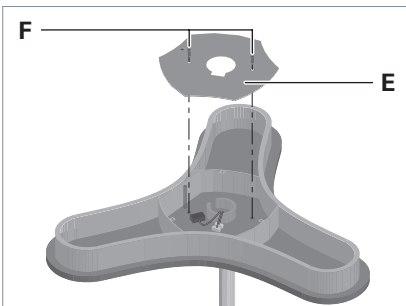

Fig. 8: Mounting the cover.
- ▶ Remove the cover **E** from the light head, see Fig. 8.
- ▶ Place the cover **E** on the light head, see Fig. 8.